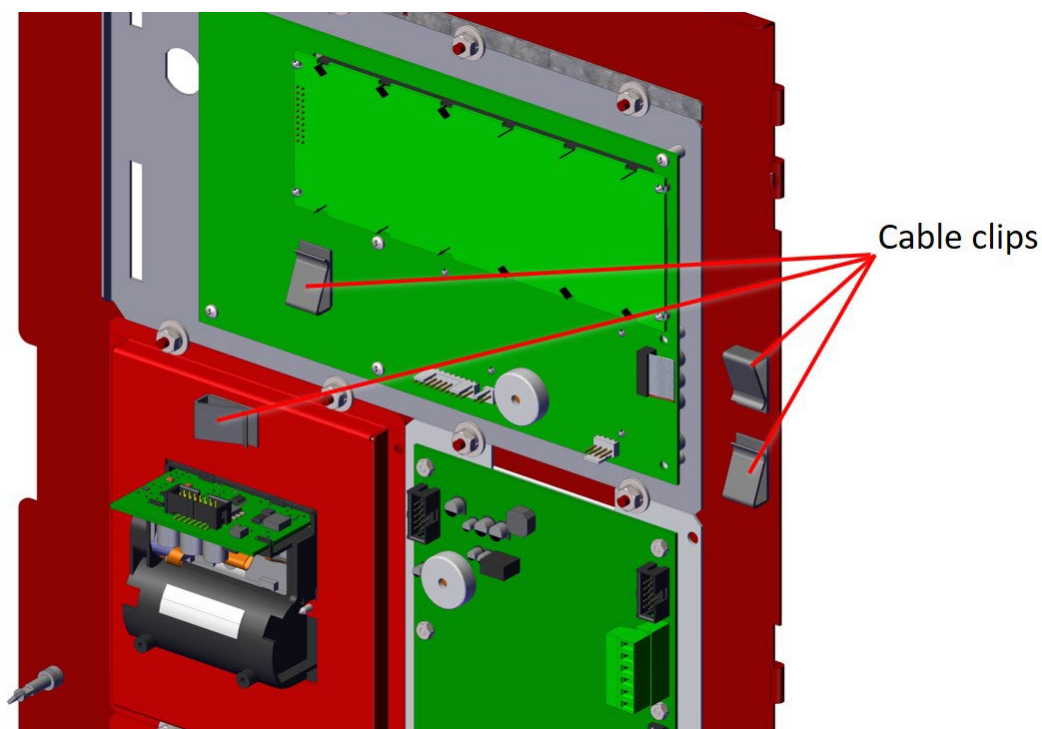

Figure 61 - NX10-EM-PRN Cable Clips
4. Install the supplied adhesive backed cable clips (Figure 61).